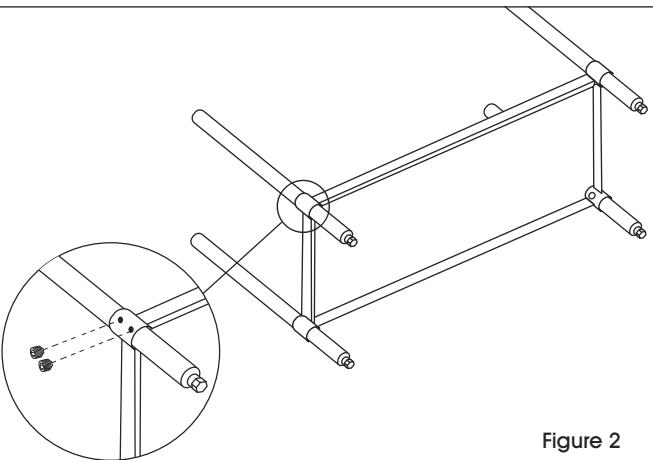

Figure 2
- Secure legs to undershelf with set screws using 5/32" Allen wrench. (See Figure 2)